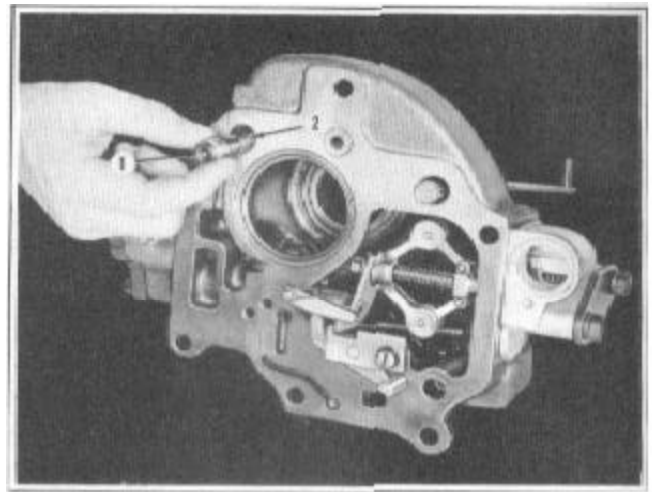

FIGURE 29
1. Install the parking interlock piston spring (2), Figure 29, into the extension case, slip the stem of the piston (1) into the spring and push the piston into the bore of the case. Check the piston to make sure it moves freely in the bore in case.